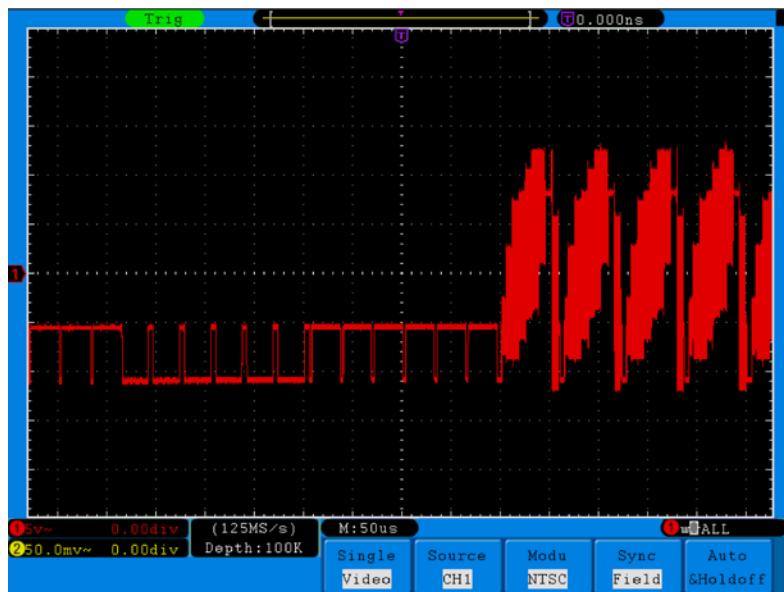

Fig. 85 Waveform Obtained from Video Field Trigger
11. Turn the **VOLTS/DIV**, **VERTICAL POSITION** and **SEC/DIV** knobs to obtain a proper waveform display (see Fig. 85).